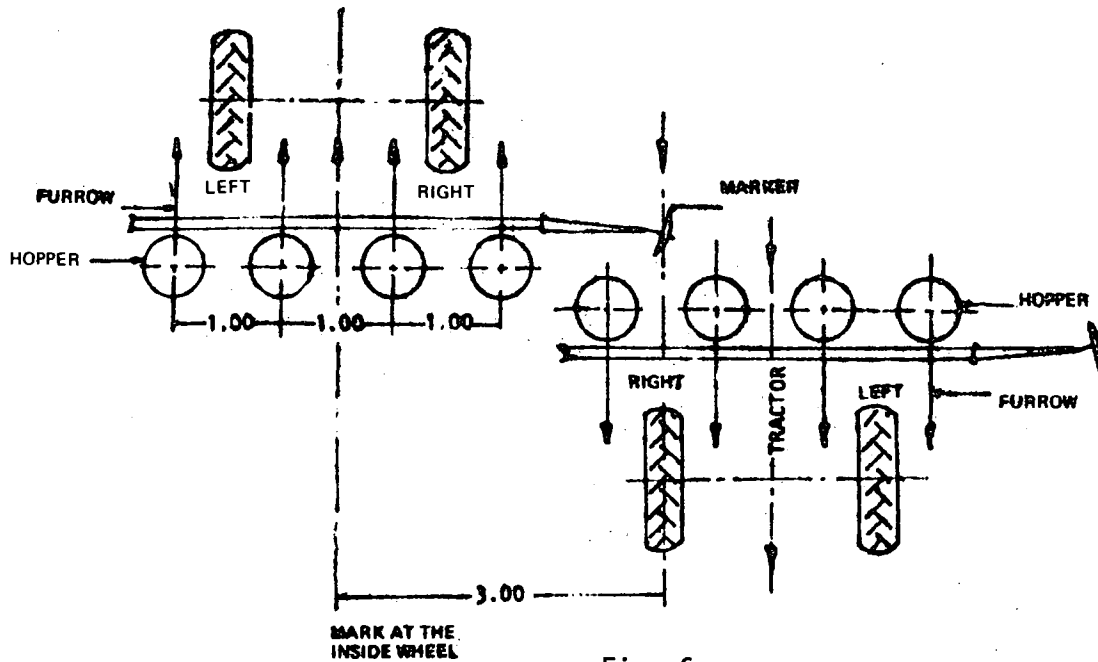

Fig. 6
- For marking, the inner wheel should be at a distance equal to three times the distance between furrows (Fig. 6).